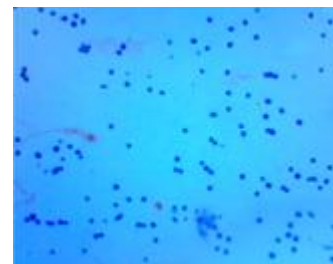

Figure 4: Example trypan blue stained fixed cells.
- Examples of stained fixed cells are shown below. High quality fixed samples have single distinct cells with <5% aggregation and no debris. Higher levels of aggregation will lead to elevated doublets after sequencing and may indicate a poor quality cell isolation. When quantifying fixed cells, it is critical to avoid counting debris to avoid overestimating the number of cells (Figure 4).